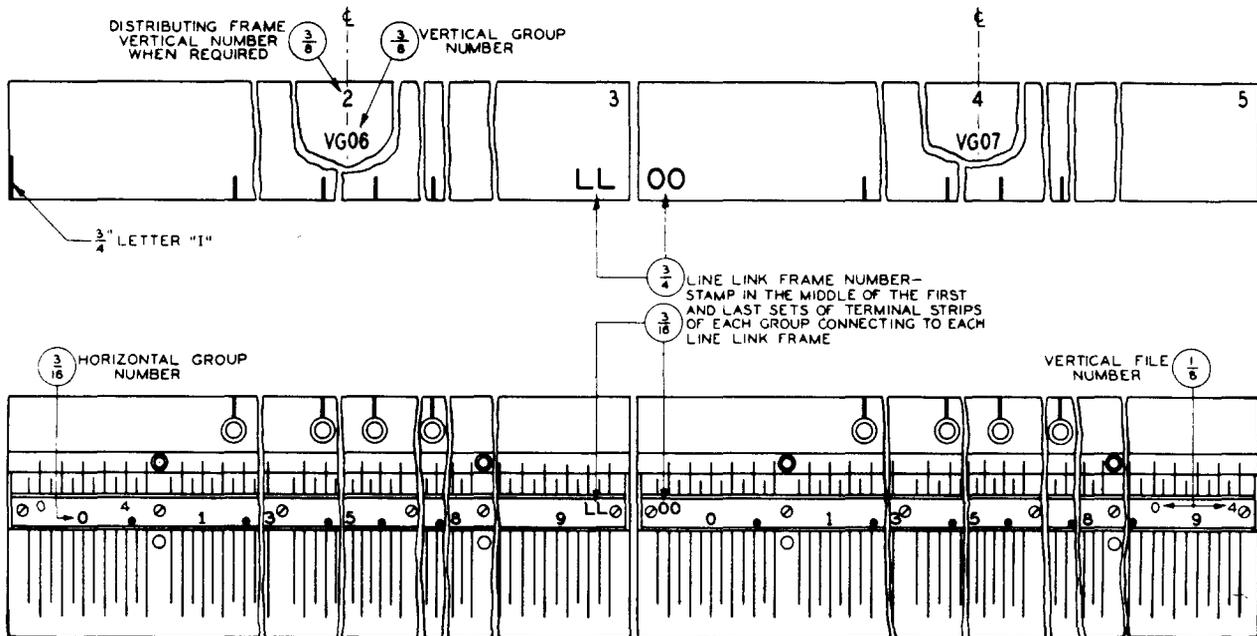

Fig. 14 — Terminal Strips — 182 and Similar Types — Subscriber Lines, Tip and Ring Leads — No. 5 Crossbar MDF
(1) **The terminal strips carrying the tip and ring leads** for each line link frame are arranged on successive shelves with each shelf carrying leads for all vertical groups of each line link frame. On these terminal strips, stamp the line link frame number in the middle of the first and last sets of terminal strips of each group connecting to each line link frame and stamp a group separation stripe for each group. (See Fig. 14, 15, and 16.)